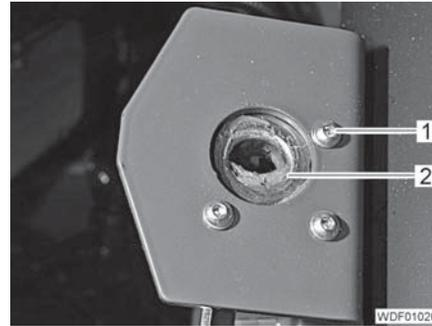

Fig. 282 Lock attachment
- Unscrew the 3 screws (Fig. 282,1).
- Remove the locking mechanism (Fig. 282,2).
- Locate the locking mechanism (Fig. 282,2) in position.
- Screw in the 3 screws (Fig. 282,1).